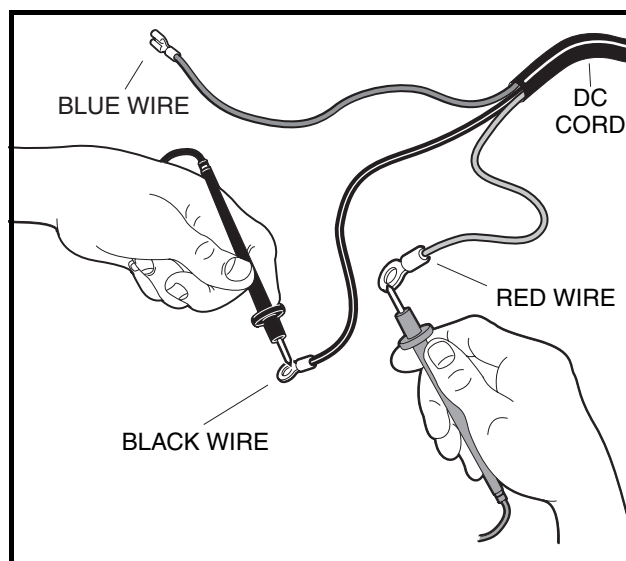

Figure 4-16 DC Cord Test – DS Villager 4
6. Using a continuity tester (CCI P/N 1011273) or multimeter set to 200 ohms, connect the test probes to the DC cord black wire and the DC cord red wire (**Figure 4-16, Page 4-18**). Note the reading.